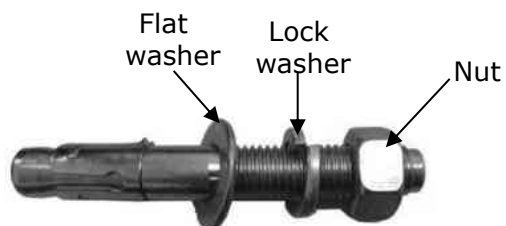

Fig. 35
2. Prepare the anchor bolts (See Fig. 35).